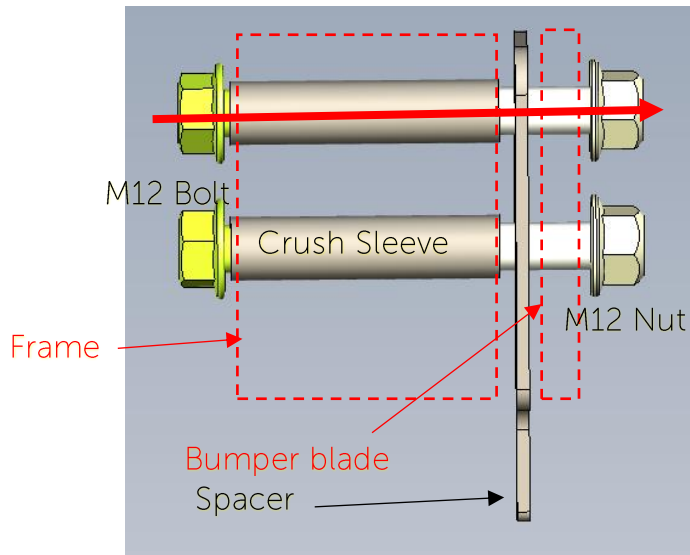

Figure 5 - Driver side outside frame
- c. [2] M12 bolts + [2] crush sleeves + [5 or 3] spacers + [2] M12 nuts feed through frame rail and bumper blade. – Fig. 5 & 6